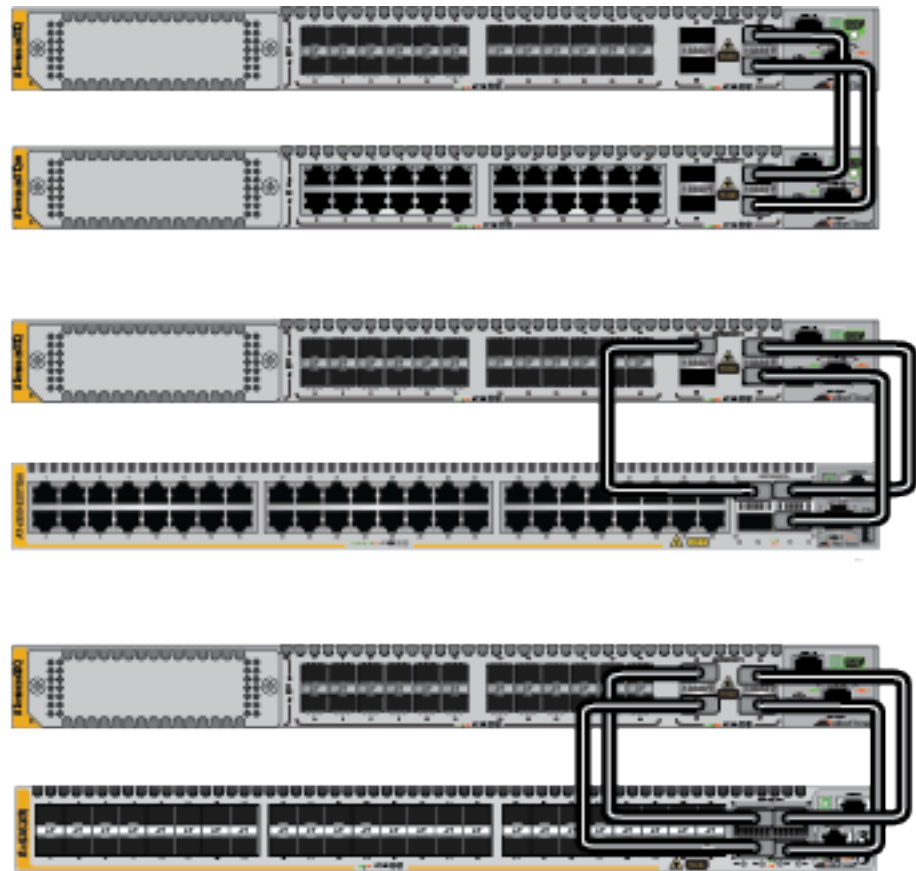

Figure 32. Stack Trunk Examples of Two Switches with Trunk 40Gbps Links
- ❑ For stacks of two switches, you can use two, three, or four ports per switch for trunks. Examples are show in Figure 32.